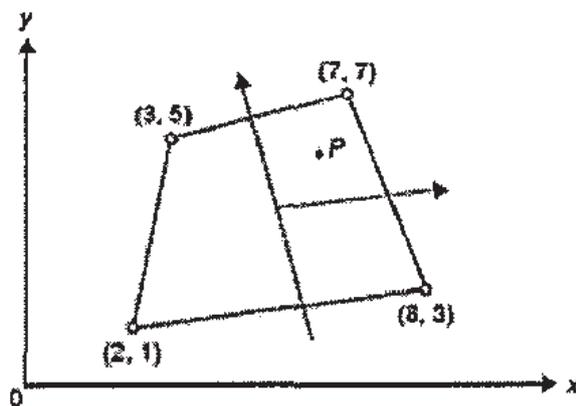

Fig.7
- b)** Determine the Cartesian coordinate of the point P($\xi = 0.5, \eta = 0.6$) shown in Fig 7 [6]